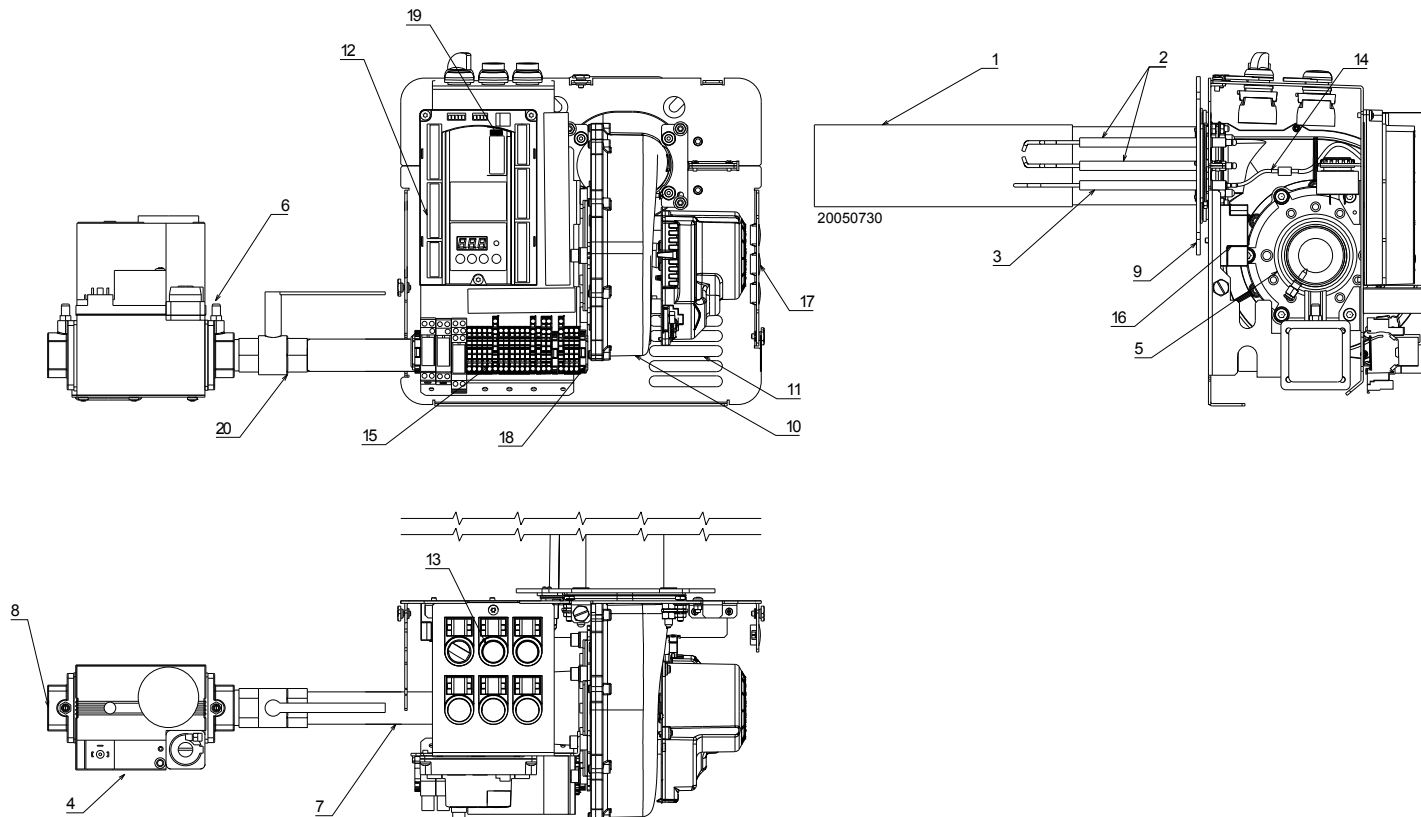

Fig. 3
- (1) Reference conditions: ambient temperature 68 °F (20°C) - Barometric pressure 394" WC - Altitude 329 ft.
- (2) Pressure at test point 6)(Fig. 3 at page 9) with zero pressure in the combustion chamber and maximum burner output.
- (3) Sound pressure measured in manufacturer's combustion laboratory, with burner operating on test boiler and at maximum rated output.
If the push-button 13)(Fig. 3) lights up, it indicates that the burner is in lockout. Press the push button to reset.